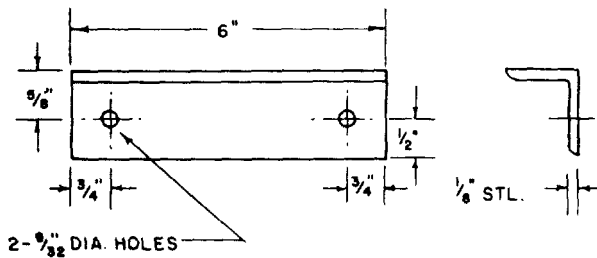
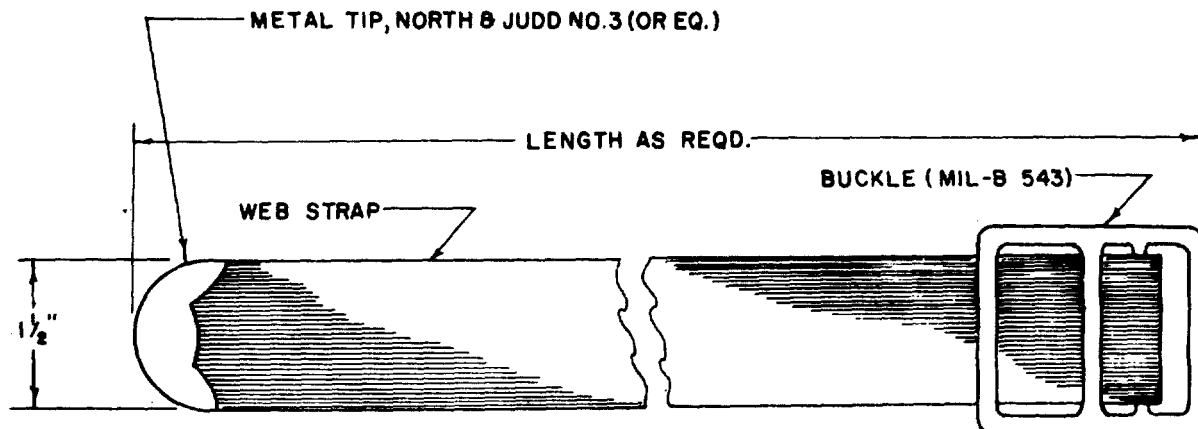

Figure 34. Inspection kit guide angles.
Figure 35. Tiedown strap, continuous type.
c. *Inspection Kit, Fluorescent, Portable.* This kit is mounted at the top center of the forward wall of the shop (fig. 23). Mounting components are shown in figures 34 and 38. Straps and loops for mounting other equipment are shown in figures 35, 36, 37, 39, and 40.
e. *Inspection Kit, Magnetic Particle, Stationary.* This kit is mounted at the center of left side of the shop (fig. 23). Mounting components are shown in figures 35, 38, 39, and 45 through 50.